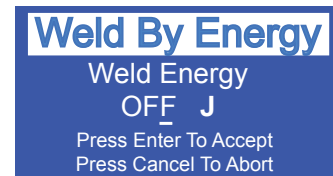

Figure 5-6A Navigate to Energy Mode - 2
- The phrase, *Enter Changes Mode*, means when the ENTER key is pressed, the mode will change. So press the ENTER key, and the Weld by Energy screen seen in Figure 5-6A appears.